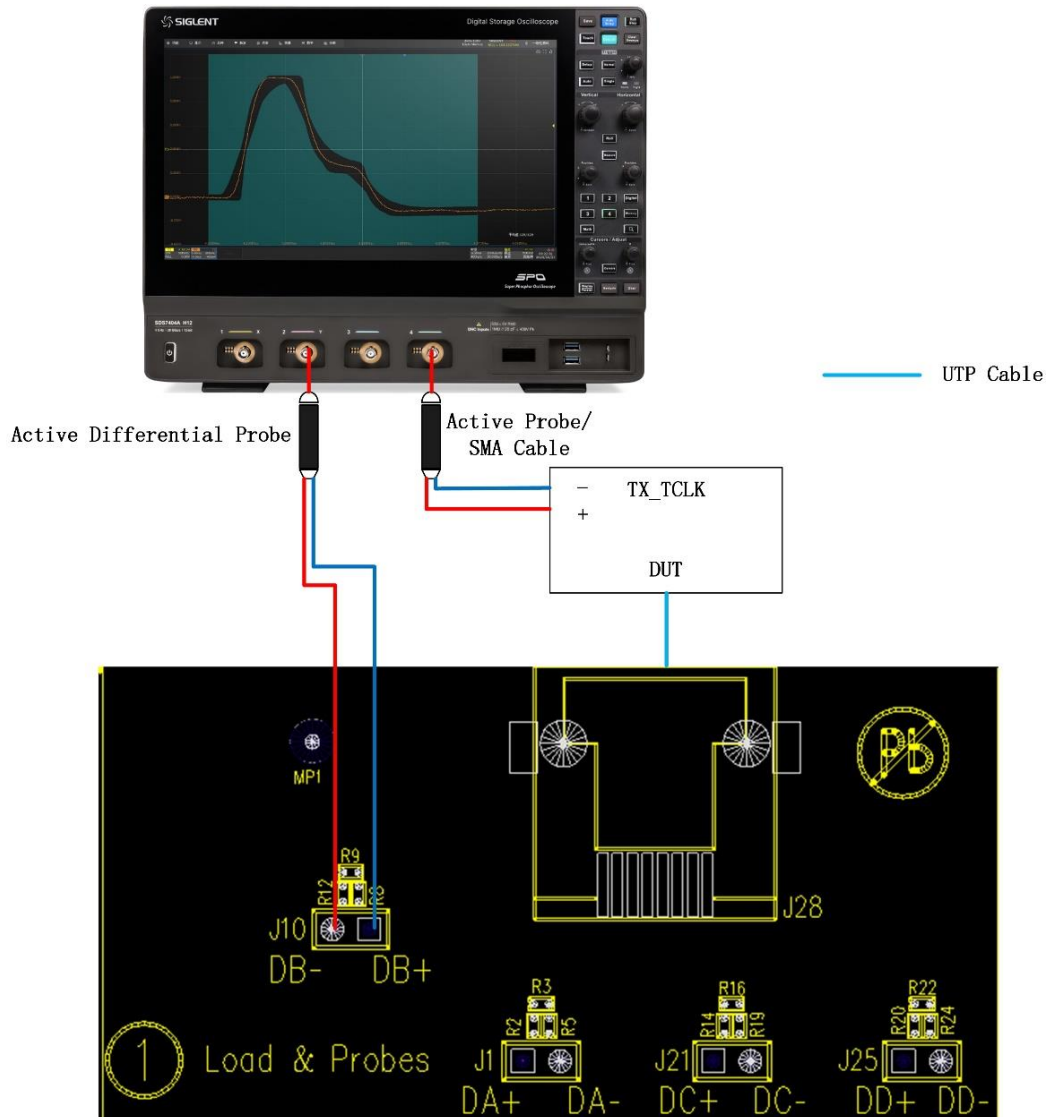

Figure 10-7 Connection of Section ① on test fixture for Slave Mode JTXOUT test
The connection with section ① on the test fixture which supports a differential active probe to probe the MDI signal, which is shown as Figure 10-7, the test step is as follows:
- (1) Use a short UTP cable to connect the DUT to J28 connector on section ① of the test fixture.
- (2) Use an active differential probe to probe test point (J1, J10, J21, J25) on section ① of the test fixture according to the signal pair being tested { (DA+, DA-), (DB+, DB-), (DC+,DC-), (DD+,DD-)}. Ensure correct polarity of the probe head.
- (3) Connect the DUT's TX\_TCLK to one input channel of the oscilloscope by using an active probe or a SMA cable.